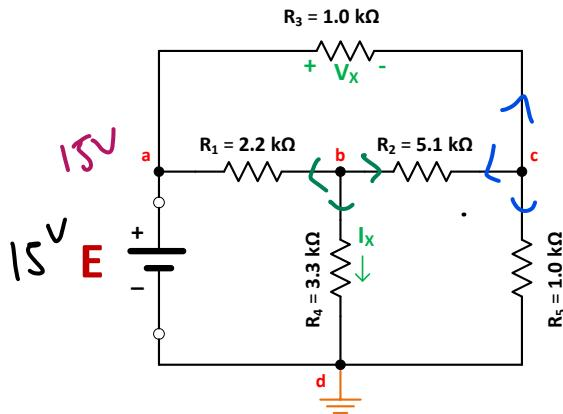

Figure 3.0a: Circuit for Nodal Analysis
- (i) **Nodal Analysis:** Select node “d” as a *ground reference node* as shown in **Figure 3.0a**. Using the *nodal analysis* technique, calculate the node voltages **V_a**, **V_b** and **V_c**. Using theses calculated node voltages, determine the value of the branch current, **I_x** and the branch voltage, **V_x**. Record all your results in **Table 3.0**.
2. **Nodal Analysis:** Refer to the circuit of **Figure 3.0a**. Use node “d” as the ground reference node, and measure the node voltages V_a , V_b and V_c with respect to this reference ground. Then measure the branch voltage, V_x across resistor, R_3 and the branch current, I_x through resistor, R_2 .